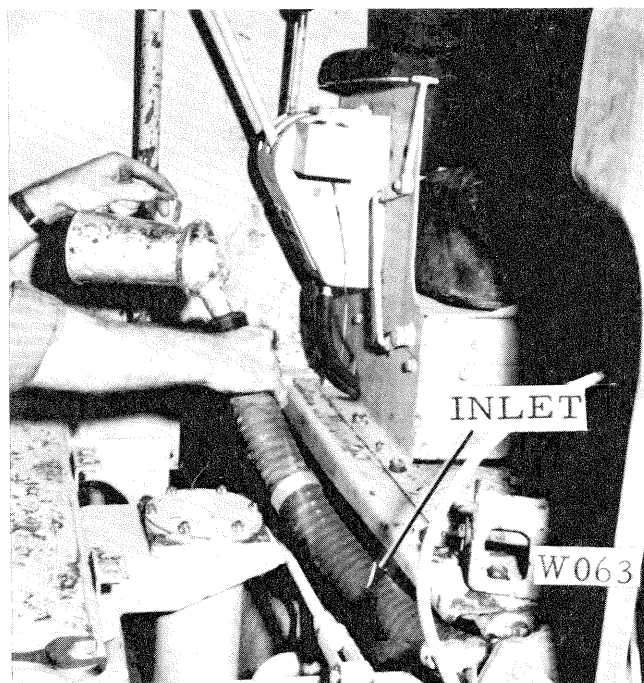

Figure 15
2. Prime pump: Fill inlet hose with correct hydraulic oil. Fig. 15. Due to position and/or location, complete filling of inlet hose may be impossible, so fill to permissible limit.